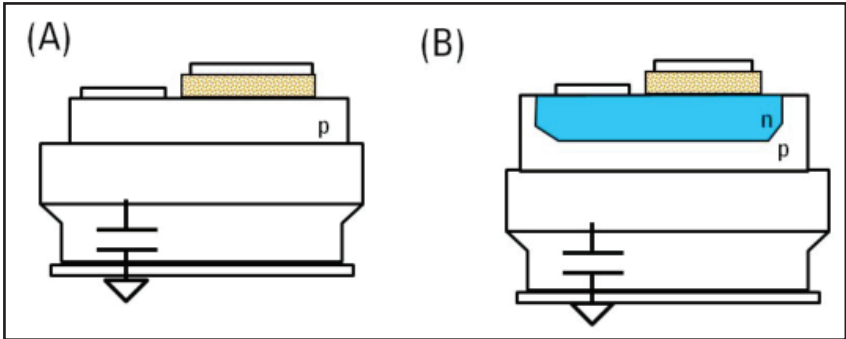
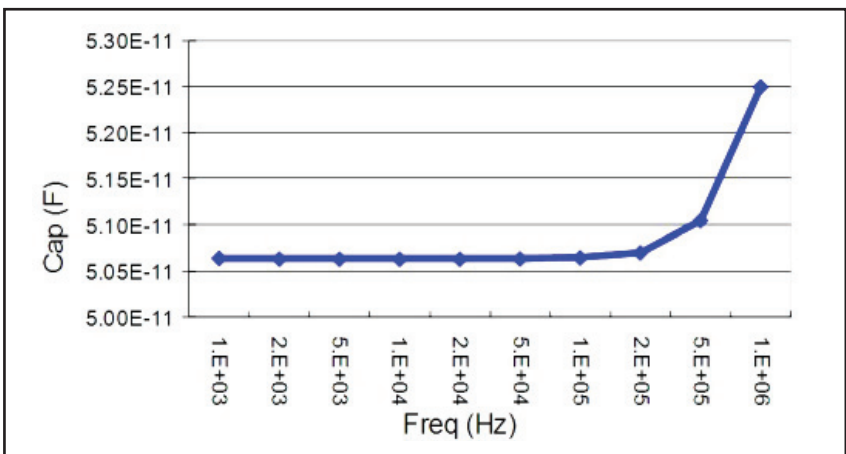

Figure 5. Device structure.
Figure 6. Frequency dependency of capacitance taken on the device structure shown in Figure 5 (A).
Figure 5 shows two other typical device structures. If the electrode for the wafer substrate is placed on the top side of a wafer, an error can occur if the device structure is as shown in Figure 5(A) where the wafer substrate and probe chuck are not electrically isolated.
The device structure shown in Figure 5(B) has better isolation between the measurement signal path and the prober chuck because the PN junction formed by the N-well in the P-substrate acts as a barrier for the leakage current. The isolation level of the PN junction determines whether or not there is a signal loss to ground.
Figure 6 shows the frequency dependency of capacitance measured on the device shown in Figure 5(A). The results show that measurement error increases as the measurement frequency is increased beyond 200 kHz. The amount of error increases up to 4% at a 1 MHz measurement frequency.